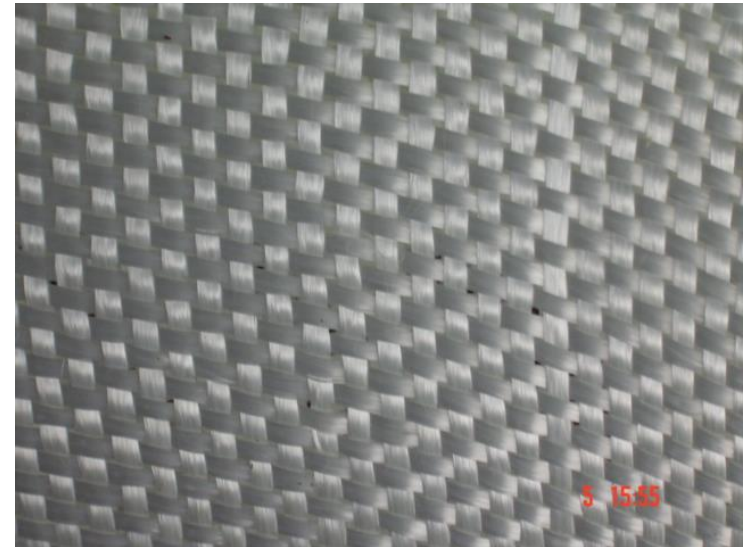

FIGURE 1
- It can be seen from Figure 1 that the continuous filament forms the basis of most reinforcements. With no further processing other than cutting to lengths of about 50 mm, these short pieces are deposited by machine on a moving conveyor belt and held and held together with a gluing compound (Powder or Liquid Binder) to form a continuous sheet of chopped strand mat of variable thickness.